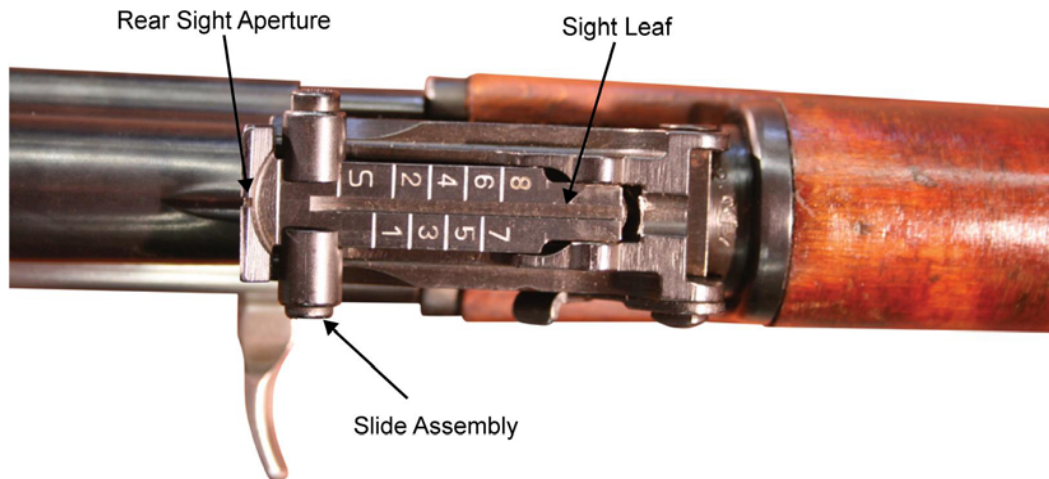

Figure 9. Rear Sight.
- c. Rear Sight. Note the position of the sight before beginning. Refer to Figure 9.